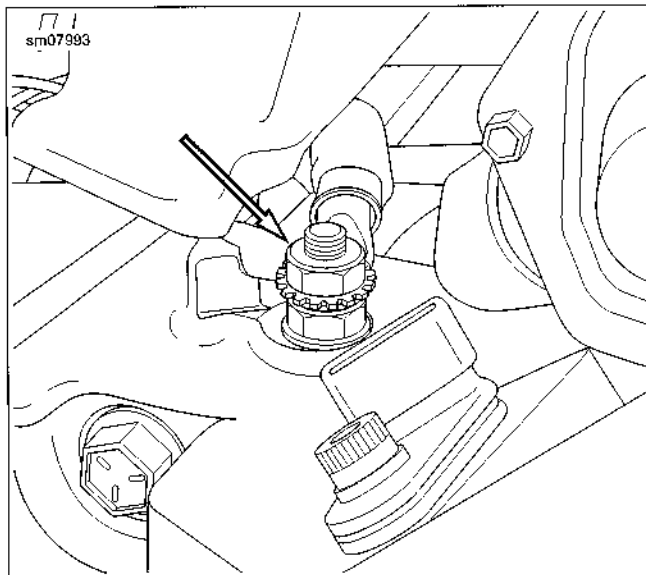

Figure 6-15. Negative Battery Cable Ring Terminal and Ground Stud
4. See Figure 6-15. Remove nut and ring terminal from negative battery ground stud.